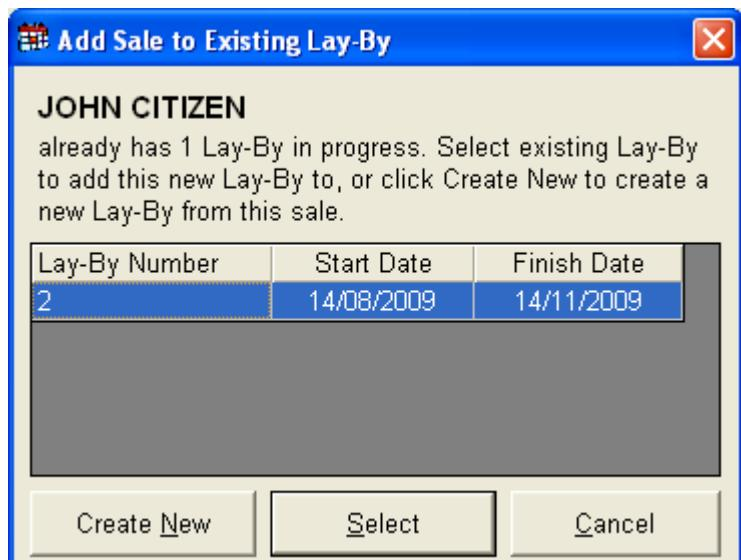

Figure 88
4. This will display the 'Add Sale to Existing Lay-By' window (see figure 88).